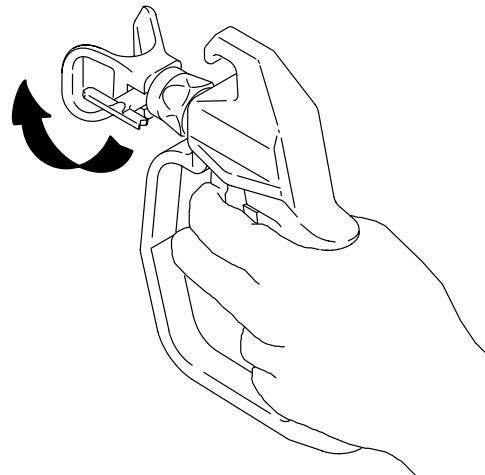

Fig. 6
13. *If you have a Reverse-A-Clean IV tip guard on your gun and the tip clogs while spraying, release the gun trigger, lock the trigger safety lever , and rotate the spray tip handle 180°. See Fig. 6.*